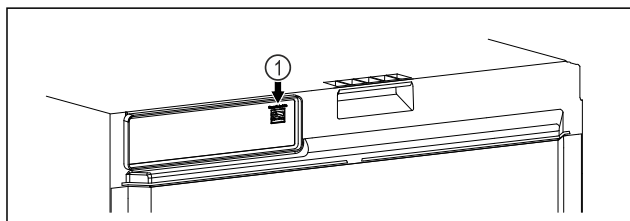

Fig. 111
- ☐ SmartModule Fig. 111 (1) has been inserted.